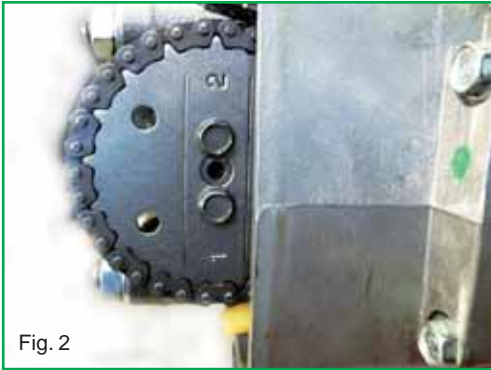
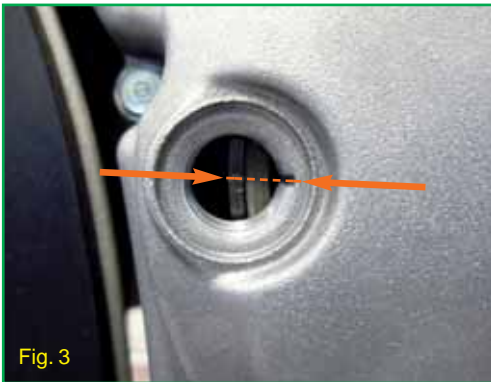

Fig. 2
Fig. 3
- Bring the engine to top dead centre during the compression phase, aligning the reference on the camshaft sprocket (Fig. 2) with the support surface of the valve cover on the cylinder head, and aligning the mark "I" on the generator rotor with the stationary reference on the cover of the flywheel (Fig. 3).